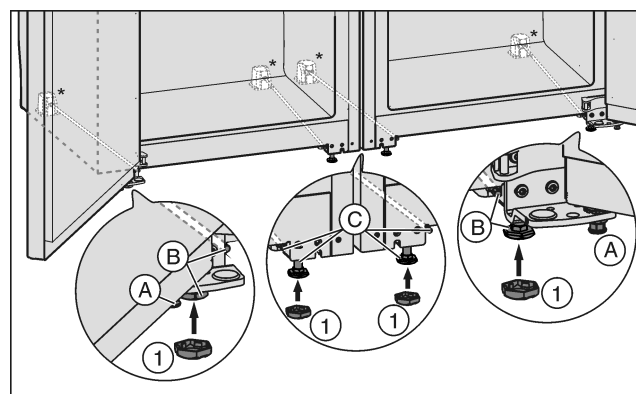

Fig. 21
- If necessary screw in the adjustment feet Fig. 21 (A) at the front of both appliances completely so that there is no floor contact.
- Place the caps Fig. 21 (1) on the four front adjustment feet.
- ▶ Tighten the centre adjustment feet *Fig. 21 (C)* so that there is no floor contact.
- ▶ Align the combination with the outer adjustment feet *Fig. 21 (B)*.
- ▶ Lower the centre adjustment feet *Fig. 21 (C)* again until they touch the floor.
- ▶ Then shore up the door: Lower the adjustment feet *Fig. 21 (A)* onto the bearing bracket until they contact the floor then turn 90° again.